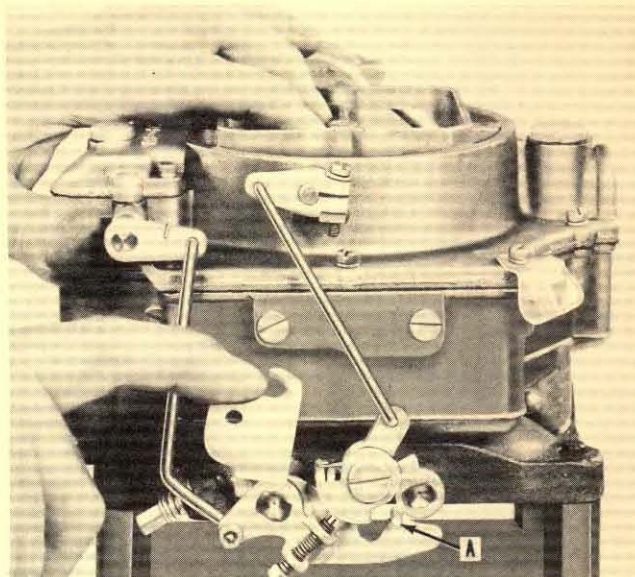

Fig. 17
A. Crack throttle valves and hold choke valve tightly closed. Then close throttle. Tang "A," Fig. 17, on secondary throttle lever should freely engage in notch of lock-out lever. If necessary to adjust, bend tang on secondary throttle lever.